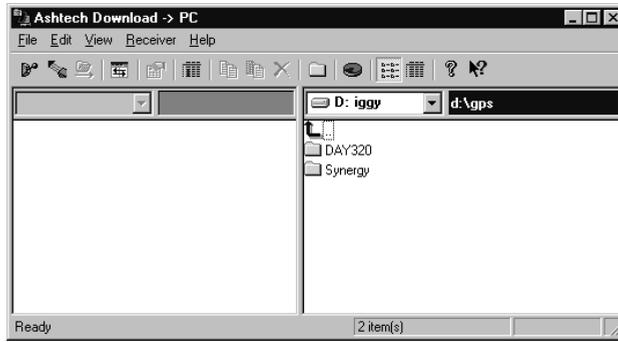

Figure 4.1. Ashtech Download Main Window
2. Select **Add raw data files from receiver** from the **Project** menu. The Ashtech Download main window appears (Figure 4.1).